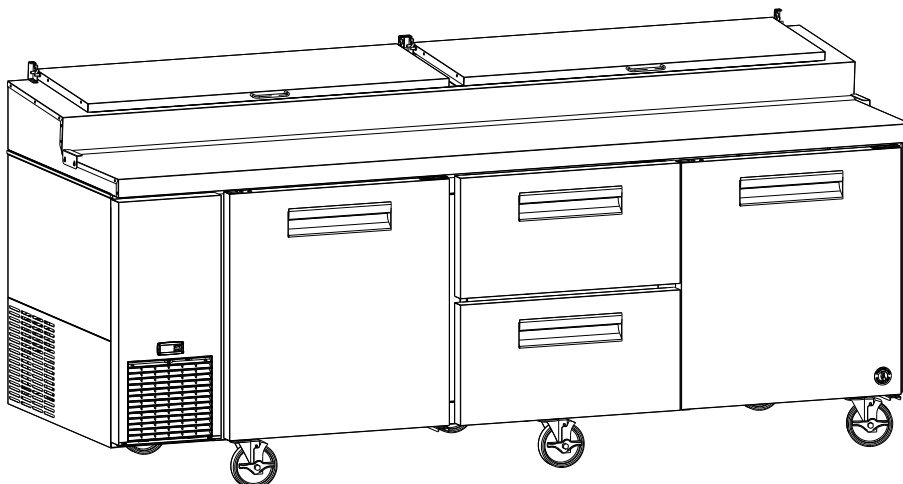

Fig. 39
- 27) Place the lower drawer in the lower drawer slides and the upper drawer in the upper drawer slides. See Fig. 39. **WARNING! Be sure to close the safety clips when reinstalling the drawer.**